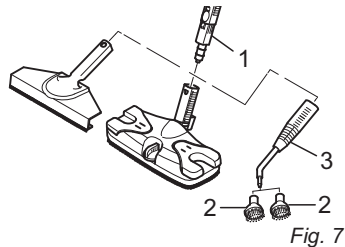

Fig. 7
3. Press the release button (Fig. 7/1) and remove the accessory just used.
To use one of the round brushes (Fig. 7/2), push it onto the jet nozzle (Fig. 7/3).